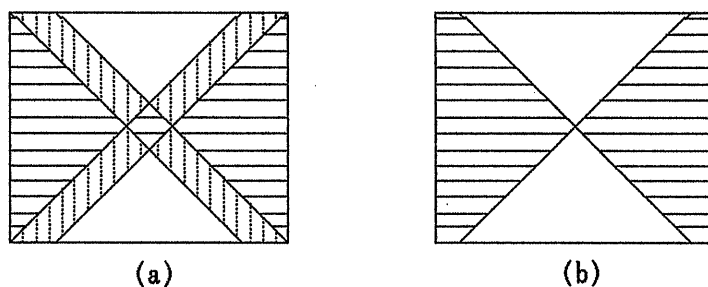

Figure 4-3
⑩ Turn the **PILOT** key off.
⑪ Press the MODULATION FUNCTION **SUB** key to turn it ON.
Waveforms like the ones shown in Figure 4-3 appear on the oscilloscope, so rotate the ⑤ PILOT PHASE semi-fixed adjustor, adjusting so a waveform like Figure 4-3 (b) is formed.